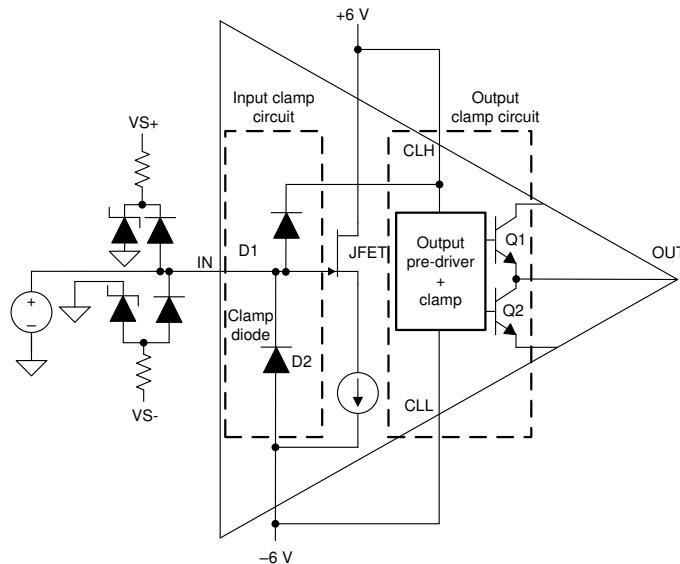

**Figure 7-1. Internal Input and Output Overvoltage Clamp**
- Figure 7-1 shows the input of the BUF802 tied to pins CLH and  $V_{S-}$  through two internal clamp diodes, D1 and D2. The diodes are rated for 100 mA of continuous current but withstand much higher transient currents. If the JFET input voltage exceeds the voltage at CLH or  $V_{S-}$ , the diodes get forward biased, clamping the JFET to CLH and  $V_{S-}$ . A 1- $\mu$ F capacitor connected in parallel to the zener diode helps in transient absorption traveling through the D1 diode.